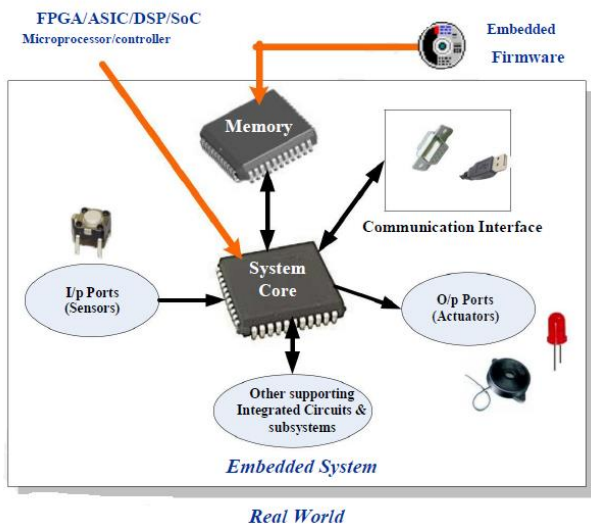

Figure 3.6.1: Elements of an embedded system
- A typical embedded system contains a single chip controller which acts as the master brain of the system. Diagrammatically an embedded system can be represented as shown in figure 3.6.1.